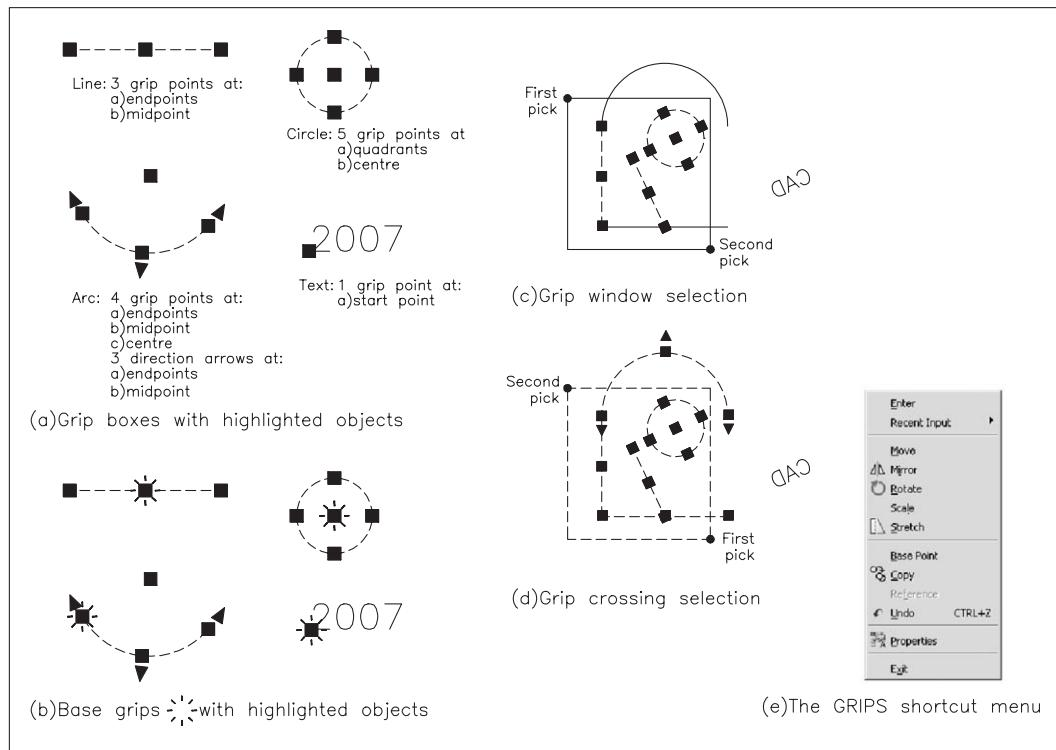

Figure 16.1 Grip terminology.
- c) refer to Figure 16.1(a) and move the cursor to each object, 'pick them' with the grip box and:
1. solid blue grip boxes appear at each object 'snap point' and the selected object is highlighted as Figure 16.1(a)
3. move the grip box to any one of the solid blue boxes and 'pick it'. The solid blue box changes to a solid red box and the selected object is still highlighted. The red box is the **BASE GRIP** – Figure 16.1(b)
- 4 a) Refer to Figure 16.1(c), move the cursor and pick a first point ‘roughly’ where indicated
- a) Refer to Figure 16.1(d), move the cursor and pick a first point ‘roughly’ where indicated
When grips are being used and the base grip has been selected, a right-click will display the grips shortcut menu as Figure 16.1(e). This allows the user access to the grip options.